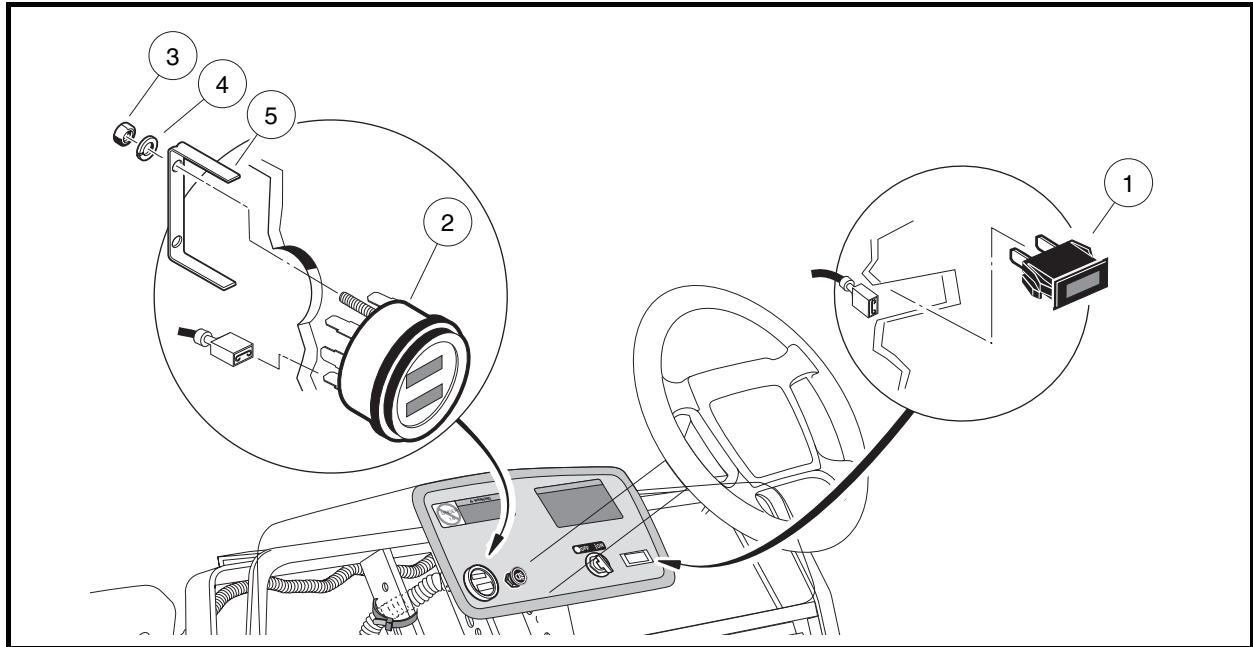

Figure 12-23 Fuel Gauge/Hour Meter and Oil Warning Light Assembly
4. Disconnect the wires from the oil warning light (1) (**Figure 12-23, Page 12-21**). Do not allow wires to touch.
1. Push a new unit into hole in dash until plastic tabs engage dash (**Figure 12-23, Page 12-21**).
4. Disconnect the wires from the fuel gauge/hour meter (2) (Figure 12-23, Page 12-21). Do not allow wires to touch.
5. Remove the two hex nuts (3) and lockwashers (4) from the threaded studs on the back of the fuel gauge. Remove the mounting bracket (5) from the back side of the gauge/meter and remove from the dash.
1. Install a new gauge/meter into hole in dash until flange seats against dash (Figure 12-23, Page 12-21).